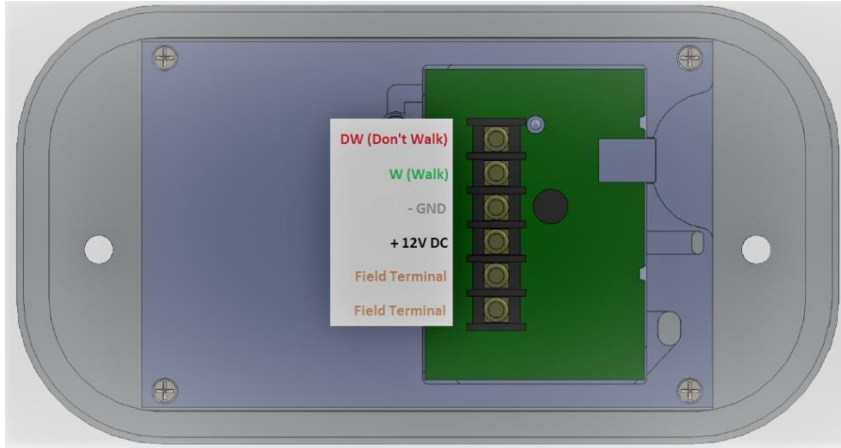

Figure 2
2. Connect the four conductor cable to the terminal block on the back of the station to the positions shown in Figure 2.
3. If there are pedestrian field wires present at the station, connect them to the positions shown in Figure 2.